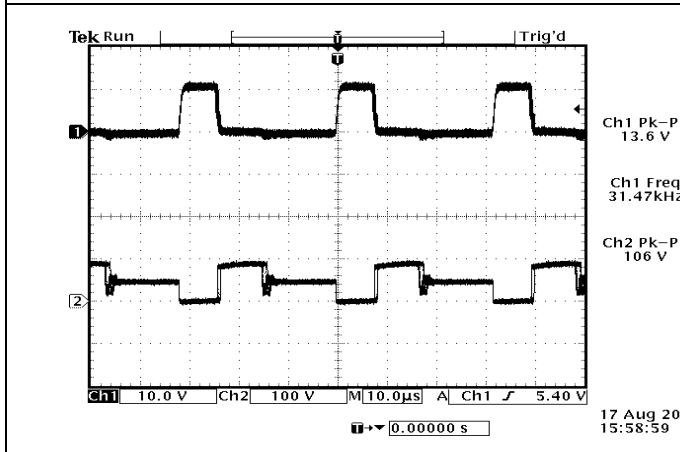

Figure 12
- Timing :** 53.6KHz./85Hz. (except figure12)